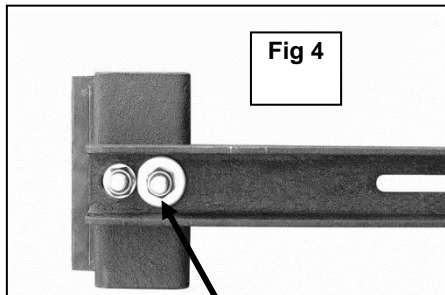

Fig 4
- Select (1) center Mounting Bracket, Clamp and Arm. Bolt the Arm to the bottom of the center Bracket with (2) 8mm Carriage Bolts, (1) 8mm x 22mm Large Flat Washer (outer), (1) 8mm x 16mm STD Flat Washer (inner), and (2) 8mm Nylon Lock Nuts, **(Figure 4)**.